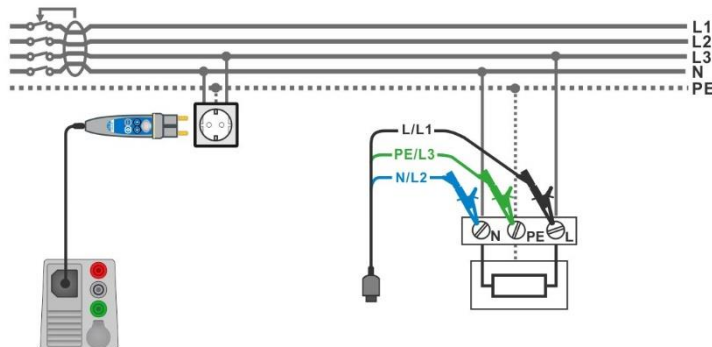

Figure 7.110: AUTO TN (RCD) measurement
- › Connect 3-wire test lead or Plug commander to the object under test, see **Figure 7.110**.